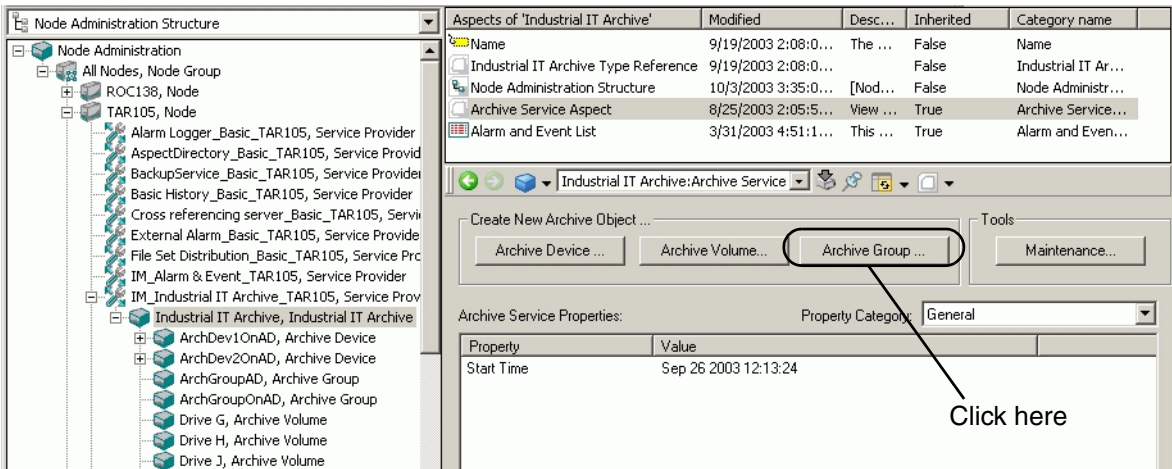

Figure 230. Creating a New Archive Group
5. Click **Archive Group**, Figure 230.